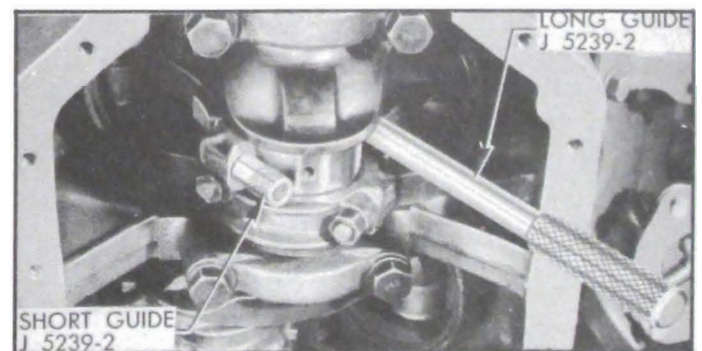

Figure 2-33—Connecting Rod Bolt Guides Installed
4. With No. 1 crankpin straight down, remove the cap with bearing shell from No. 1 connecting rod, then install the *short* Connecting Rod Bolt Guide J 5239-1 on the lower connecting rod bolt, and install the *long* Guide J 5239-2 on the opposite bolt, above crankpin. Turn guides down to hold the bearing upper shell in place. See figure 2-33.
9. Insert piston and rod assembly into its cylinder bore with the long guide pin placed above the crankpin. Push the assembly down until the rod bearing seats on crankpin. See figure 2-33.